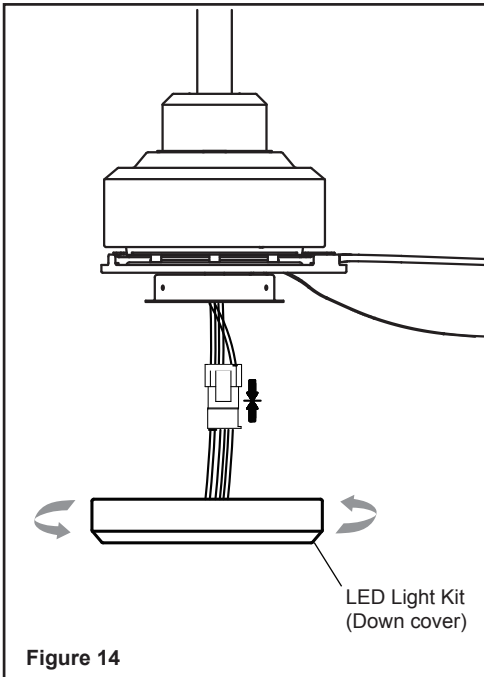

Figure 14
**Step 1** - Connect the male plug on fitter plate to female plug in light kit. (Fig.14)